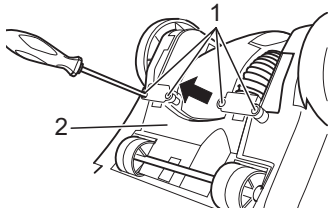

Fig. 25
2. Unscrew the 4 screws on the hinge covers (Fig. 25/1) of the base plate (Fig. 25/2) using a crosshead screwdriver.
3. Remove the hinge covers (Fig. 25/1).
19. Assemble the hinge covers (Fig. 25/1) with four screws (Fig. 25).